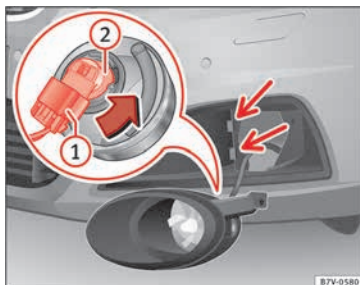

Fig. 111 Changing the bulbs in the headlights
3. Tilt the headlight slightly forward and extract it from its lateral attachments » Fig. 111 (small arrows).
4. Release the connector » Fig. 111 ① and remove it.
5. Rotate the bulb holder » Fig. 111 ② to the left all the way, in the direction of the arrow, and pull it out backwards together with the bulb.
8. Insert the connector » Fig. 111 ① on the bulb holder ②. The connector must audibly click into place.
9. Place the headlight into its position » Fig. 111 (small arrows) and tilt it backwards.